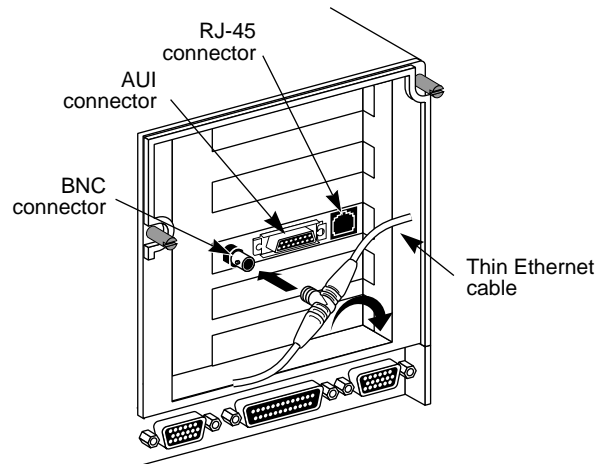

Figure 2-2 Connecting Thin Ethernet Cable
- 1** Connect the T connector to the adapter's BNC connector (see Figure 2-2).